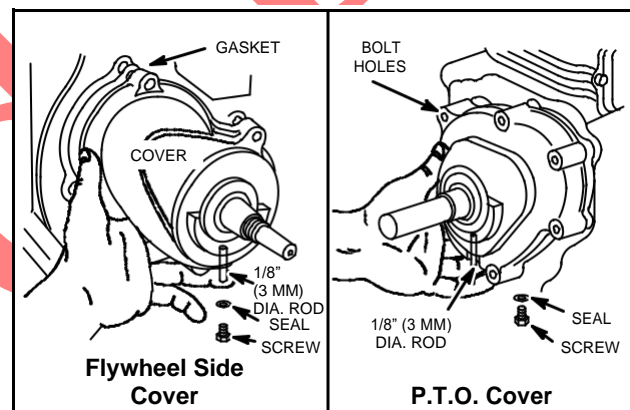

Fig. 185 - REMOVING TIMING HOLE SCREW
1. Remove the timing hole screw from cover assembly, Fig. 185.
2. Insert a short piece of 1/8" (3 mm) rod through timing hole in cover and into machining hole in counterweight, Fig. 185. The rod holds the counterweight in the proper position while cover is installed on engine.